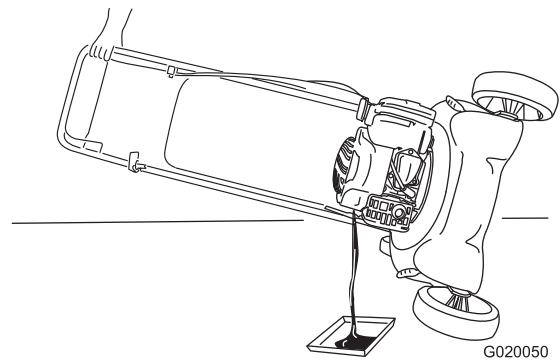

Figure 16
2. Tip the machine onto its side, with the dipstick down, then remove the dipstick to drain the used oil out through the oil-fill tube (Figure 16).